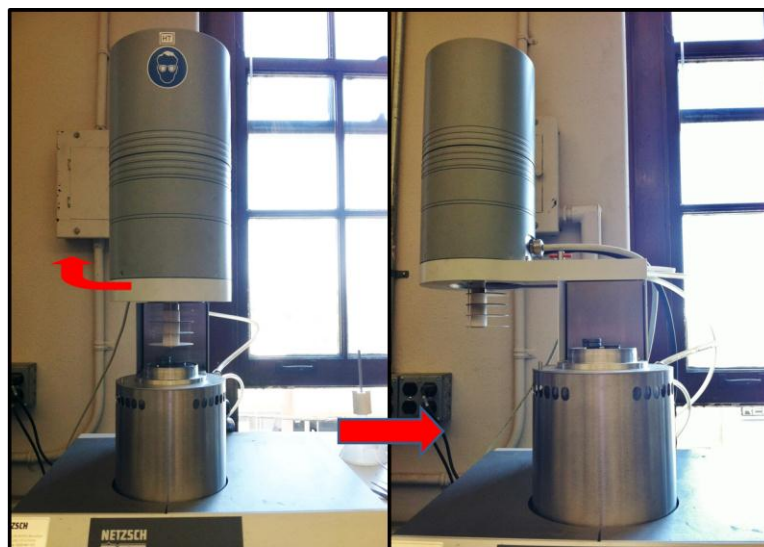

Figure 10. Proper movement of detector to access the sample stage.
- Swivel the detector to the left to expose the sample stage (see Figure 10). Be very careful with the IR detector fins (see Figure 9).